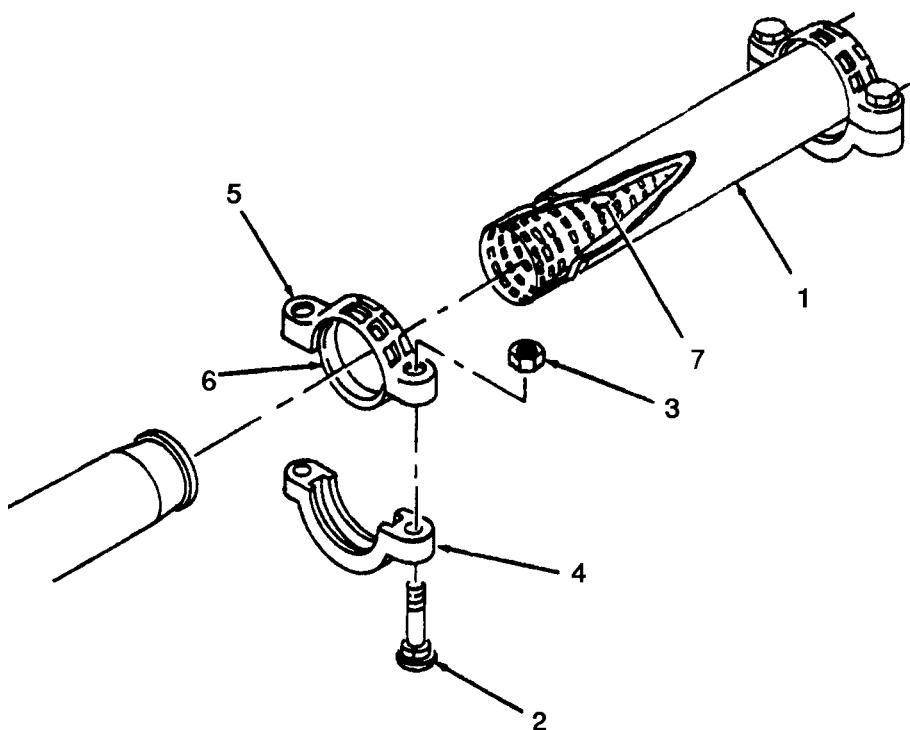

Figure 3-12. Strainer Assembly, Service and Replace.
- a. Remove (Figure 3-12)
- (1) Isolate strainer (1) i.e. close valves on each side.
- (2) Remove two bolts (2) and nuts (3) securing lower half of pipe coupling clamp (4) and upper half of pipe coupling damp (5) on one side of strainer.
- (3) Remove pipe coupling damp halves and gasket (6).
- (4) Drain residual fuel into appropriate container.
- (5) Repeat procedures (2) and (3) for the opposite side of strainer.